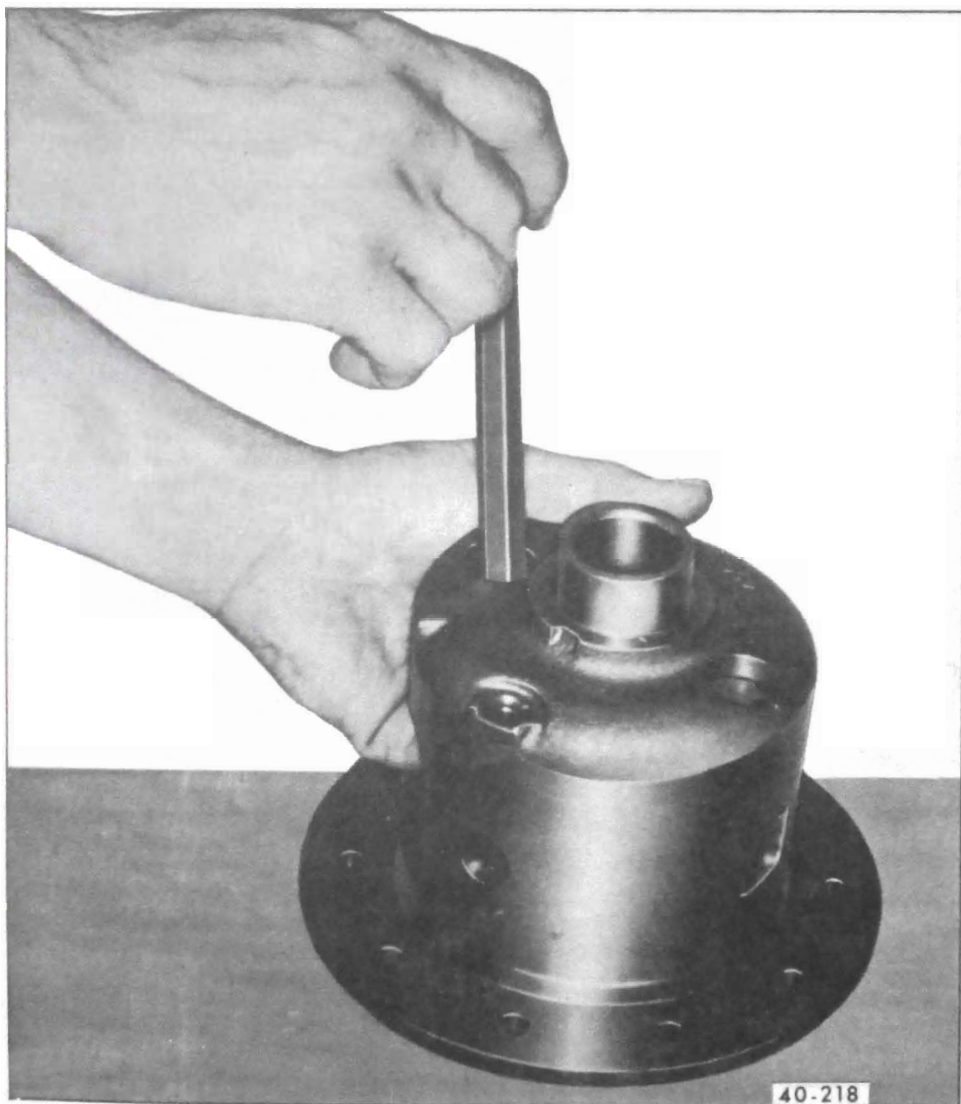

Figure 40-205 - Removing Clutch Pack
8. Remove side gears, clutch packs and shims from the case noting their location in the case to aid in reassembly. See Figure 40-205.